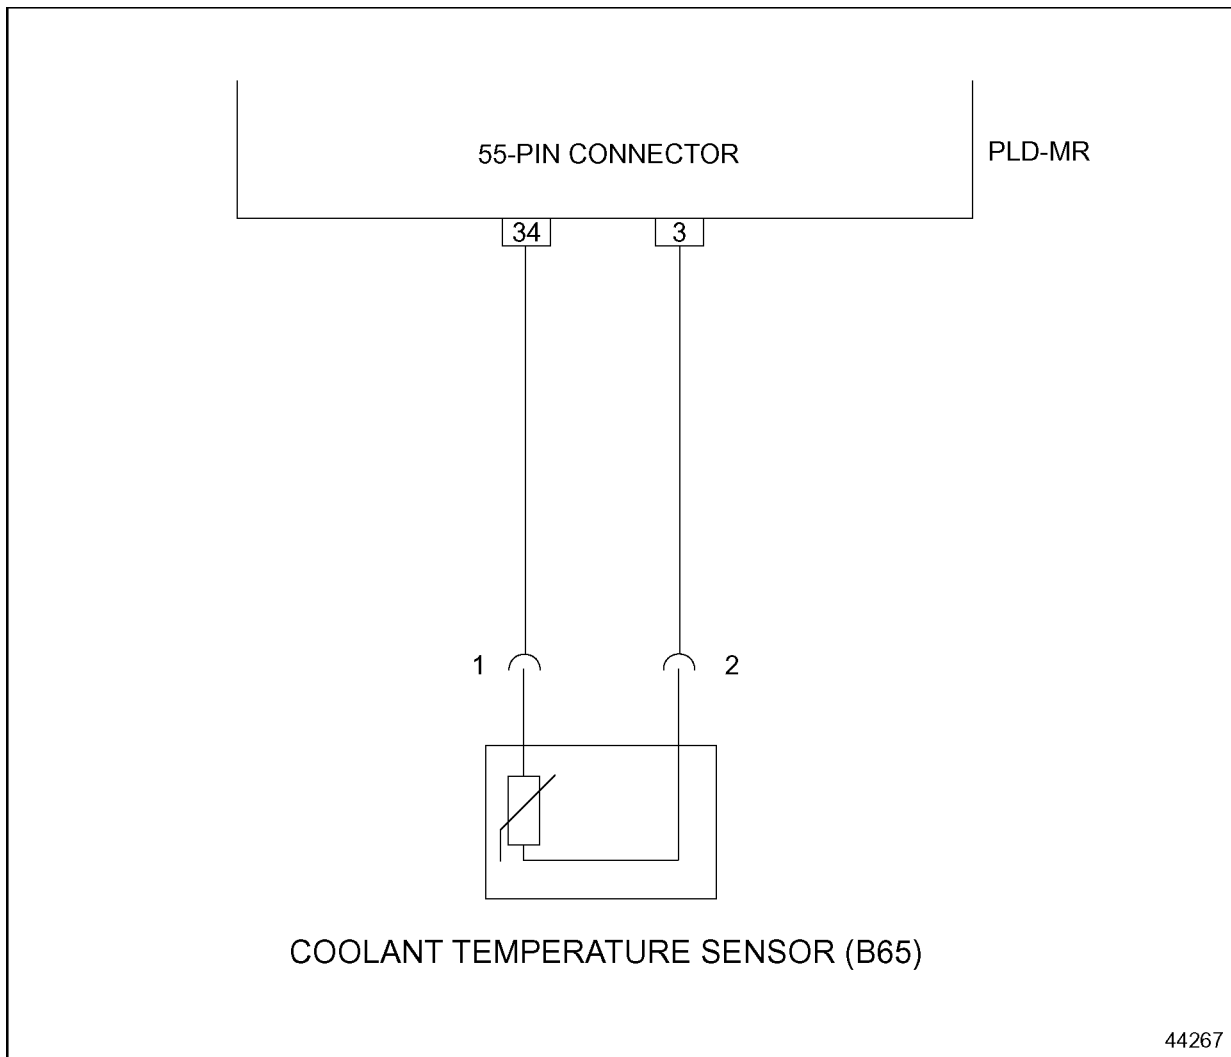

Figure 11-4 Engine Coolant Temperature Sensor Wiring
3. Bridge ECT sensor pins 1 and 2. See Figure 11-4.
4. Bridge pin 1 of the ECT sensor to ground. See Figure 11-4.
5. Check the resistance between pin 3 of the 55-pin connector and pin 2 of the ECT sensor. See Figure 11-4.
3. Check the resistance between pin 1 of the ECT sensor and ground. See Figure 11-4.